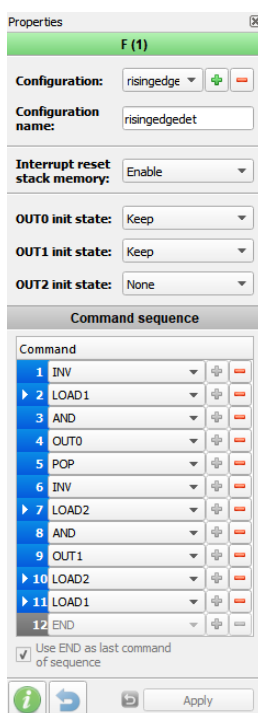

Figure 10: F(1) Properties
State Dependent Items may be configured by selecting the visible block, then navigating to the Properties window of the block. The “Configuration” option, circled red in Figure 10, shows the current configuration of the F(1) block within the selected state. To create a new configuration simply press the green plus button, and to select a different configuration (or to choose no configuration) select the state from the dropdown menu. Selecting the red minus button will remove the configuration entirely, which may affect other states, but will also free the ASM resource.